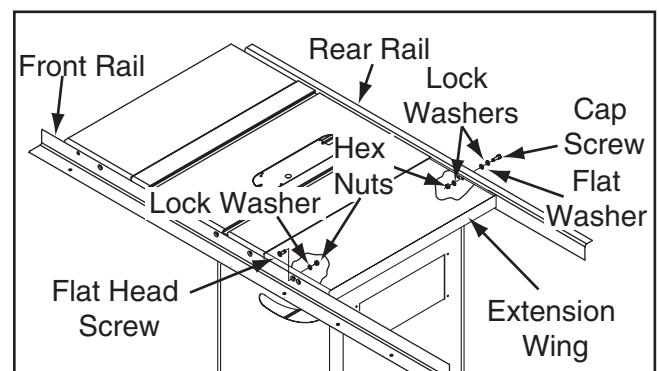

Figure 10. Extension wing attached to rails.
5. With help of an assistant, place extension wing between rails and fasten wing to front rail with (1) M8-1.25 x 25 flat head screw, 8mm lock washer, and M8-1.25 hex nut (see **Figure 10**). Finger tighten for now.
6. Attach extension wing to rear rail with (1) M8-1.25 x 25 cap screw, (2) 8mm lock washers, (1) 8mm flat washer, and (1) M8-1.25 hex nut, as shown in **Figure 10**. Finger tighten.